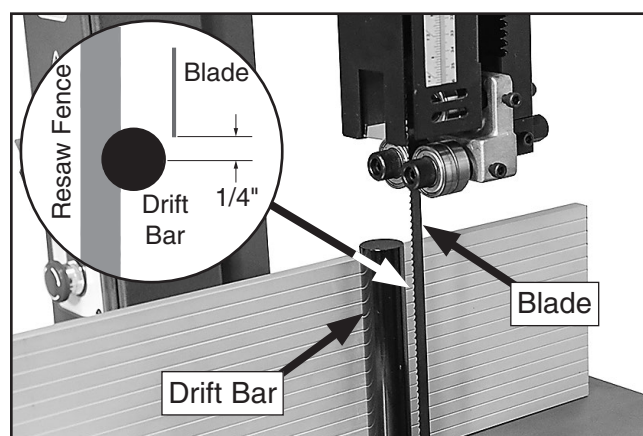

Figure 2. Resaw fence with drift bar installed.
4. Move resaw fence up to blade so center of drift bar is set approximately 1/4" forward of blade teeth (see **Figure 2**).